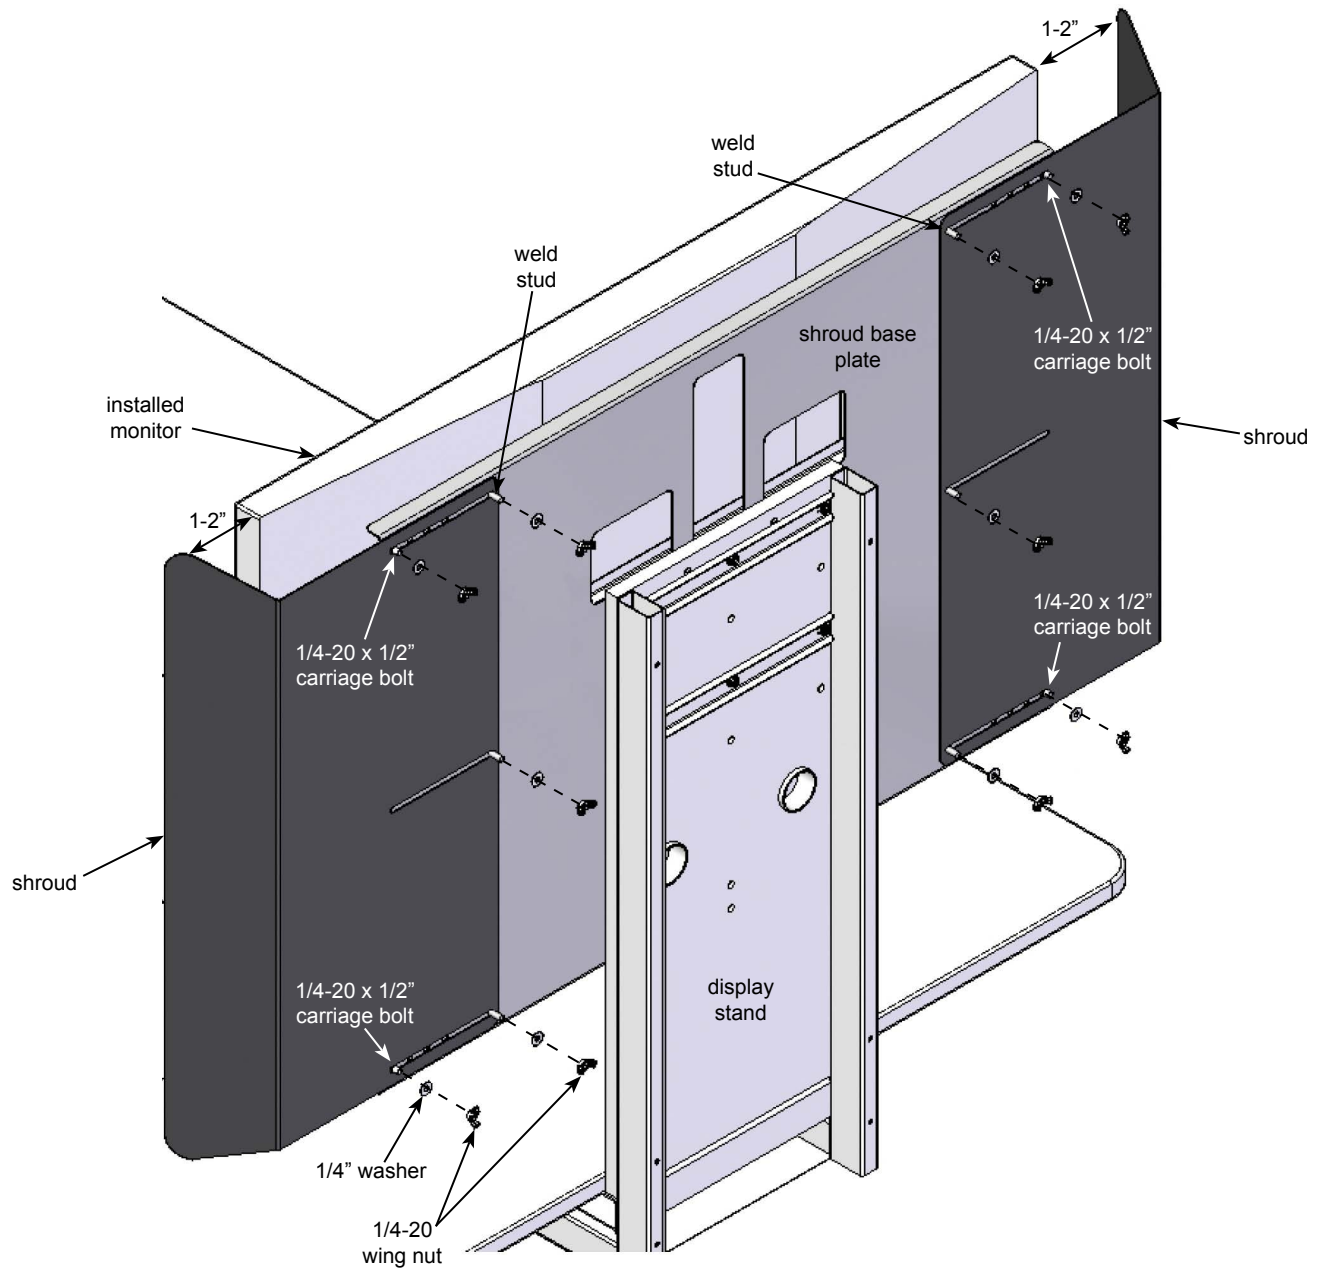

Figure 4
1. Align the mounting holes of each monitor shroud with the shroud base plate. **Figure 4.** Each shroud will attach behind the shroud base plate (display stand-side).
3. Secure each shroud to the base plate with (2) 1/4-20 x 1/2" carriage bolts, (5) 1/4" washers, and (5) 1/4-20 wing nuts. Place the carriage bolts in the closest available mounting holes next to the shroud.